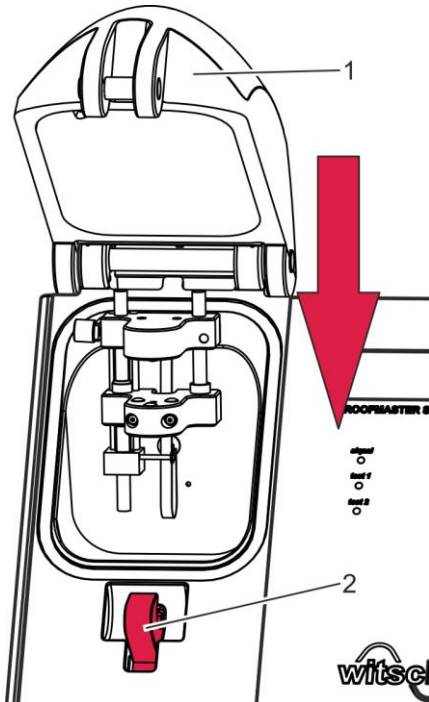

Fig. 25: Closing the bell cover
2. Close the bell cover (Fig. 25/1).
⇒ The lock (Fig. 25/2) engages.